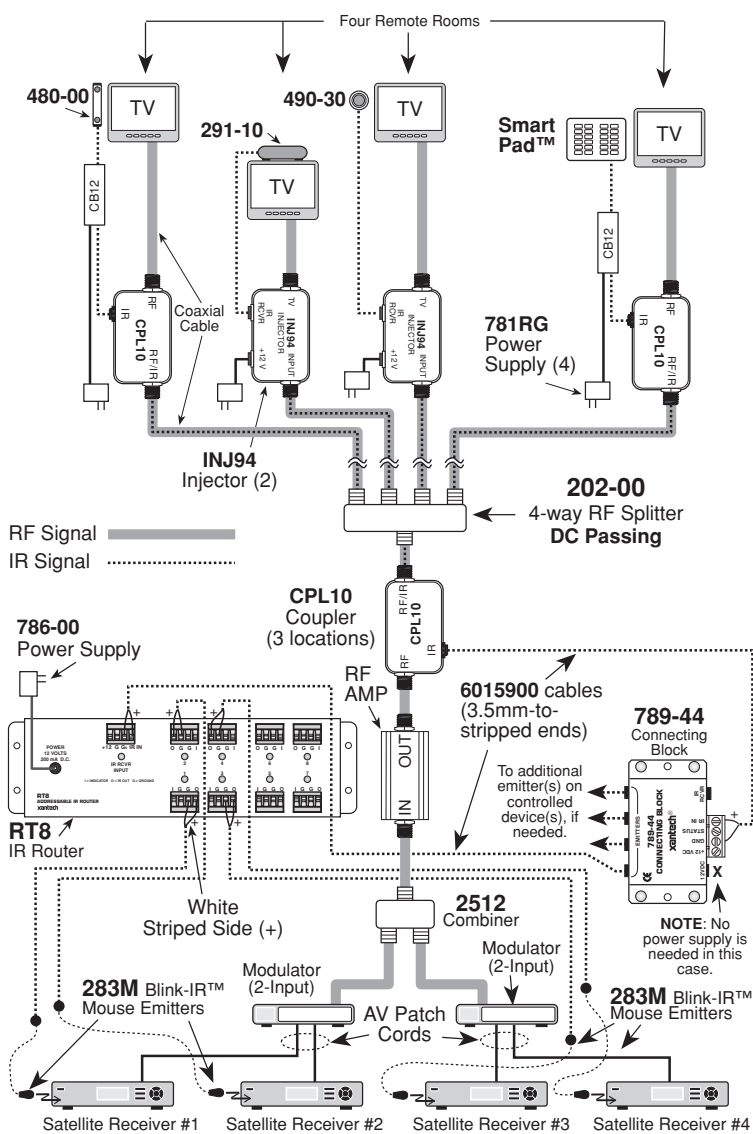

Fig. 6 Controlling Satellite Receivers through an RT8 Router
Fig. 6 shows a typical system with four same-brand satellite receivers individually controlled from four remote room locations.
CAUTION: Be sure to connect the white striped side of each emitter lead (+) to the "O" terminals on the RT8 IR outputs as shown in **Fig. 6**.
6. **Programming.** Typically a programmable remote controller, such as the Xantech URC type or a Xantech SmartPad, is "taught" the applicable RC68+ Programmer commands along with operational commands for other system components, such as satellite receivers, TV monitors, DVD players, etc. Commands that pass through the RT8 Router, such as those for the satellite receivers in **Fig. 6**, should be preceded by the appropriate RC68+ routing command in a "sequence" or "macro". This ensures that only the desired satellite receiver is being controlled when a command is executed.